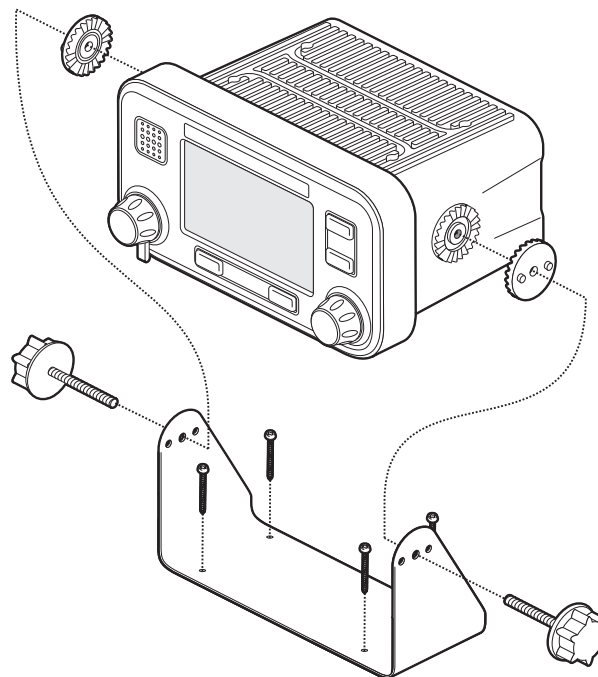

Figure 35 Mounting the AIS transceiver
- The transceiver is supplied with four self tapping screws for attachment of the AIS transceiver to a suitable surface using the trunnion bracket. Please refer to Figure 35 for guidance.